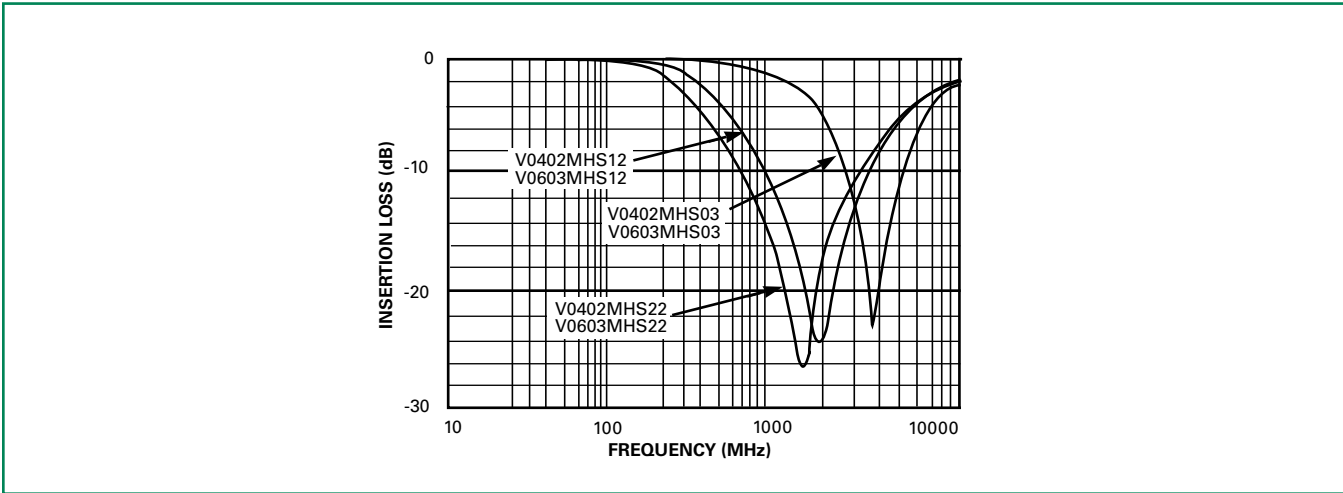

Figure 17. Step 3 Step 3 Illustration - Insertion Loss (S21) Characteristics
Step 3: Check signal integrity with Insertion Loss Chart (Refer to the summary in Figure 17)	Can meet -3dB at 1000GHz